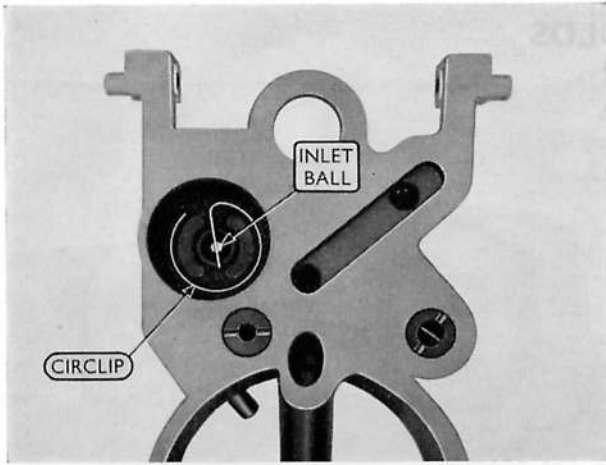

Fig. B.16. Pump piston removed from emulsion block to show location of pump inlet ball and circlip
1. Ensure that the circlip is installed in the bottom of the pump cylinder to retain the inlet ball (Fig. B.16).